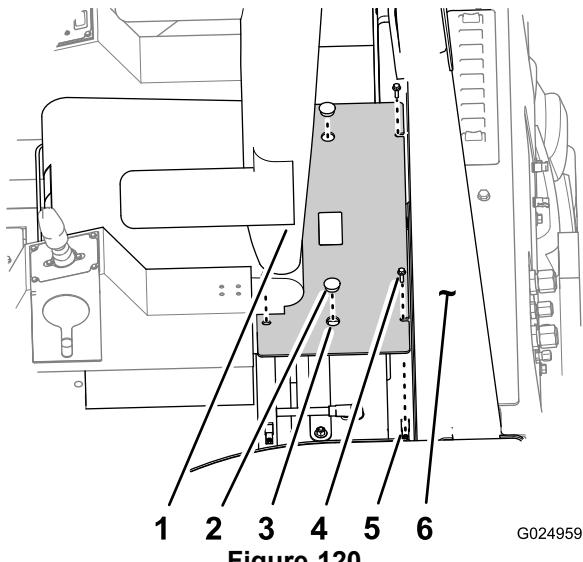

Figure 120
3. Remove the 2 finger-pull covers from the holes in the battery cover (Figure 120).
4. Remove the 4 flange-head bolts (5/16 x 1 inch) that secure the battery cover to the ROPS platform (Figure 120).
5. Using the finger pulls, lift the battery cover up to remove it from the ROPS platform (Figure 120).
4. Align the holes in the battery cover with the clip nuts at the mounting flange for the cover (Figure 120).